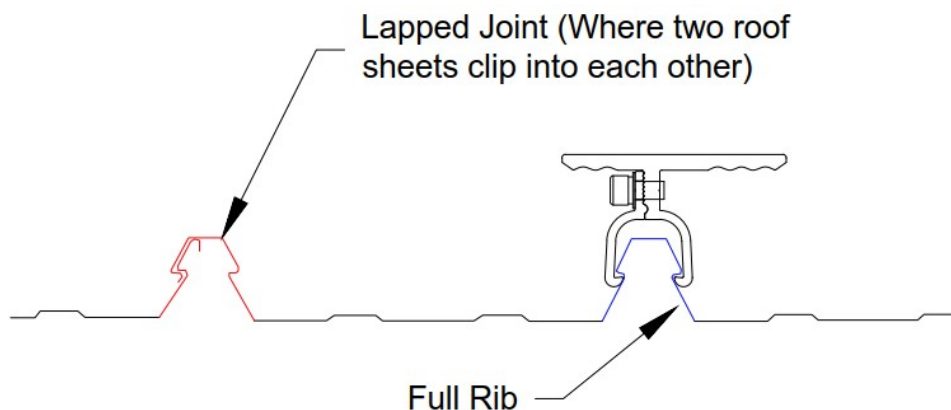

Figure 1 – Full Rib Location For Indicative
- Roof clamps to be fixed only to the **full rib** of roof sheeting on the top of the purlins (See **Figure 1**)